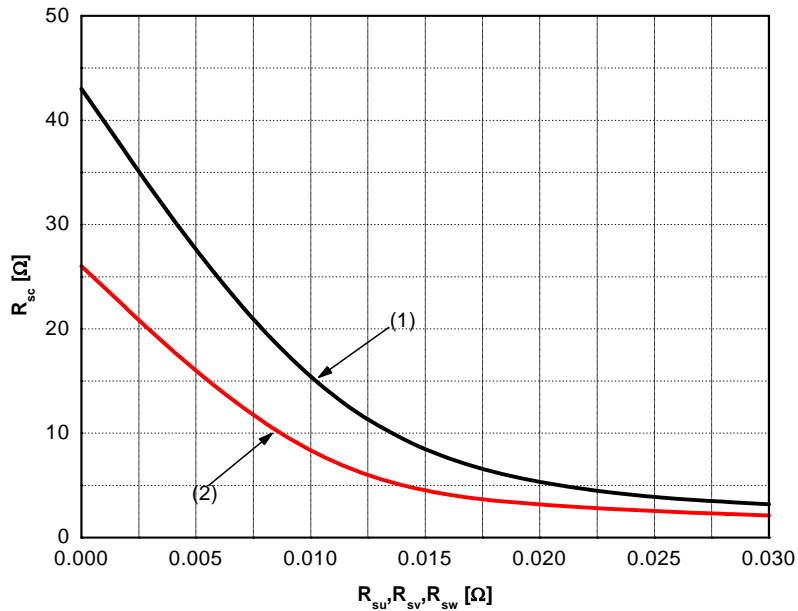

Figure 6. R_{SC} Variation by Change of Shunt Resistors (R_{SU} , R_{SV} , R_{SW}) for Short-Circuit Protection
- Short-circuit protection is functioning only at the low-sides. It would be recommended that the value of the external sensing resistor (R_{SC}) should be selected around 26 Ω in order to make the SC trip-level of about 100A at the shunt resistors (R_{SU}, R_{SV}, R_{SW}) of 0 Ω. For the detailed information about the relationship between the external sensing resistor (R_{SC}) and the shunt resistors (R_{SU}, R_{SV}, R_{SW}), please see Figure 6.